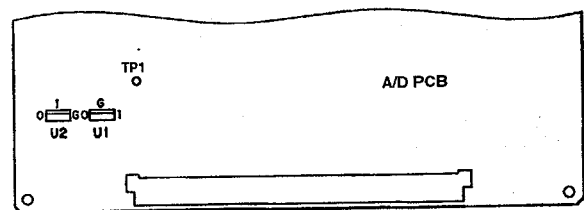

Fig. 2-11
2. Confirming the ± 5 V (stabilized) power supply on the A/D PCB (See Fig. 2-11).